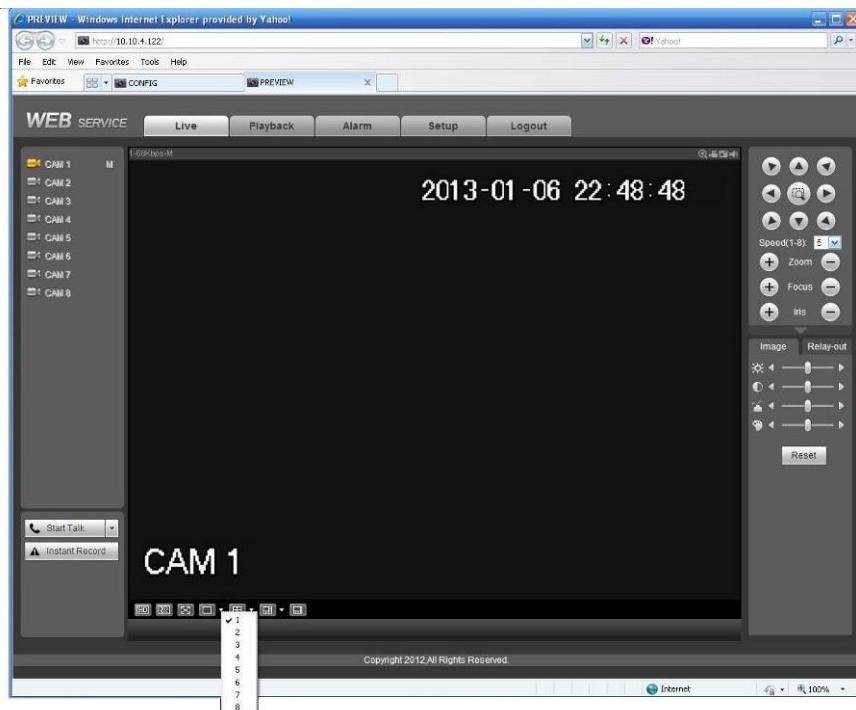

Figure 7-16
- 2) You can select different channel and different monitor mode at the bottom of the interface. See Figure 7-16.